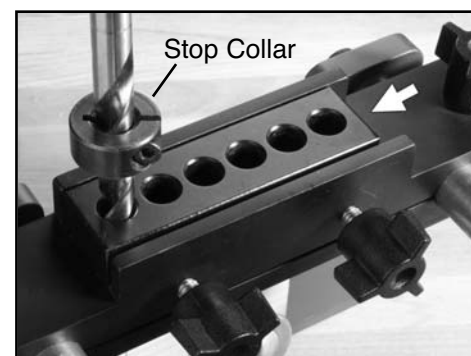

Fig. 7
7. With drilling block in the far left position (Fig. 7) drill the 1st series of holes. Use the Quick Reference Guide on page 3 to see which holes to drill.